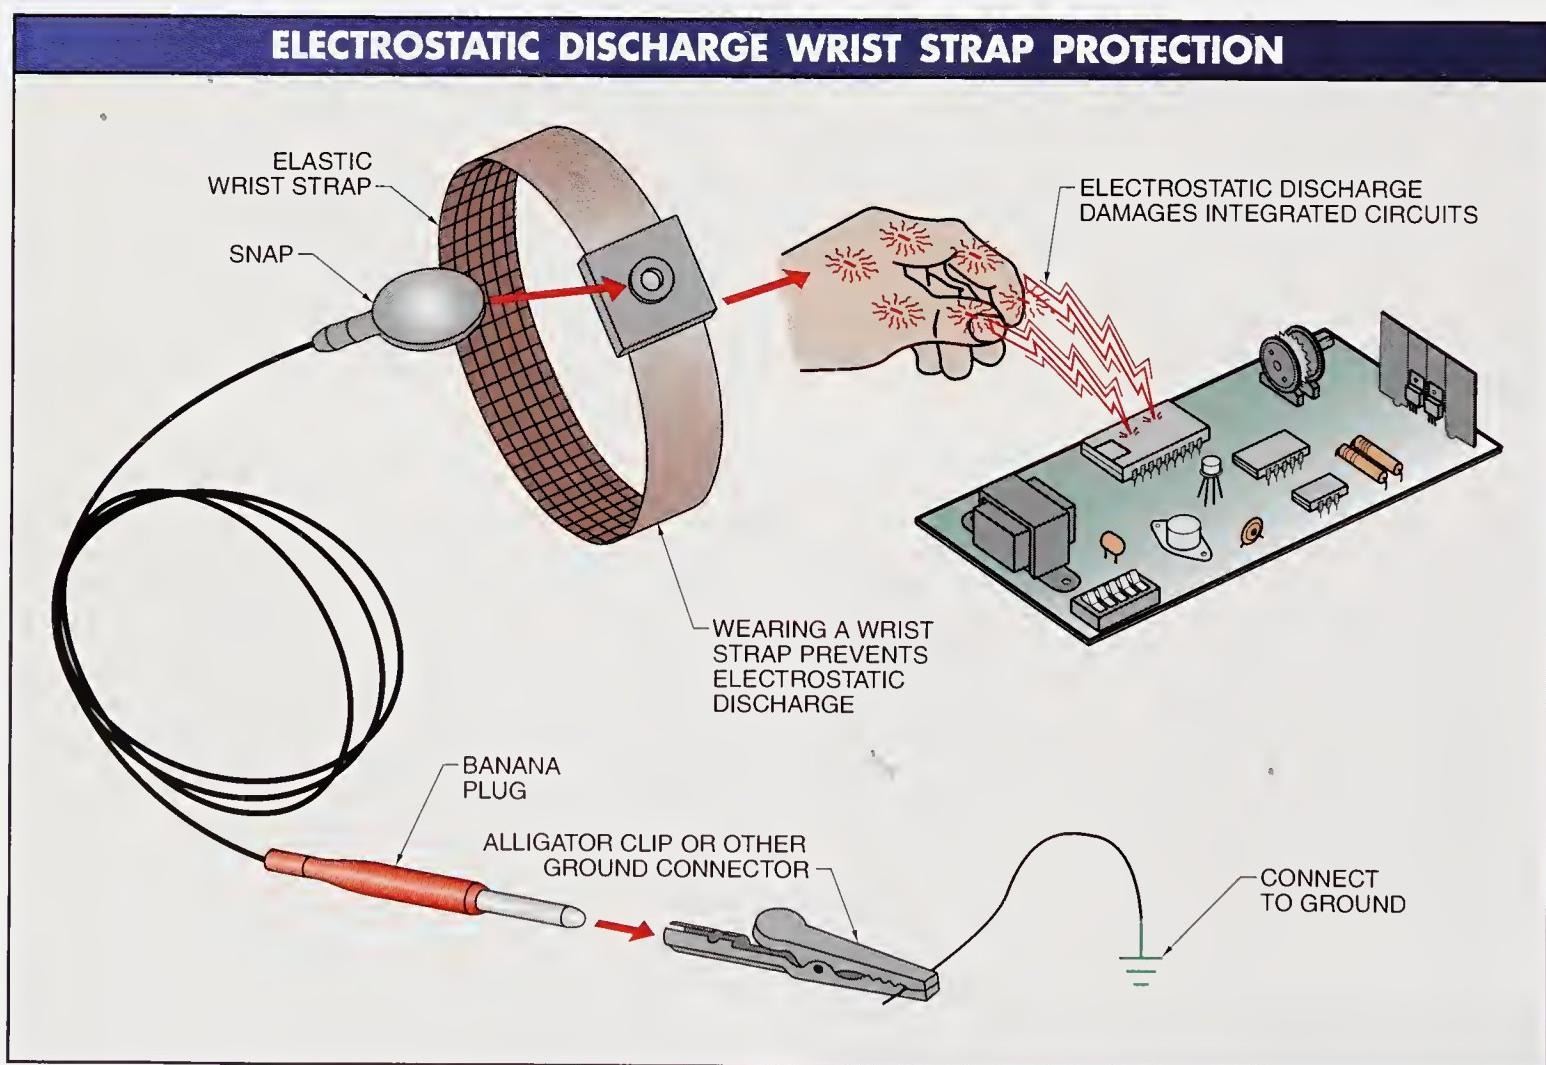

Figure 6-7. A wrist strap grounds an electrician when working with sensitive electronic equipment and components.
- Discharge any static charge buildup by touching a conductive surface such as grounded conduit before touching electronic components or PC boards. Manufacturers recommend wearing a wrist strap when working with sensitive electronic components to prevent ESD. See **Figure 6-7**.